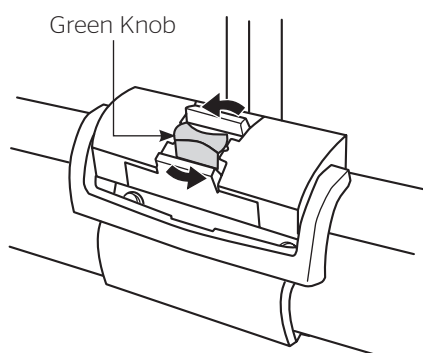

Figure 2
4. Rotate the green knob 90 degrees to unlock the release latch (Figure 2).